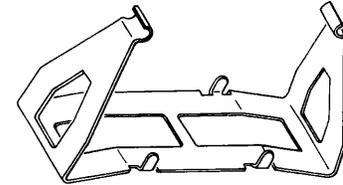

Fig. 5—4B Cover Clip
4.07 4B Cover Clip: (Fig. 5)—This clip is used to minimize displacement of operating cards, contact covers, and contact springs of wire spring relays during shipping and handling.